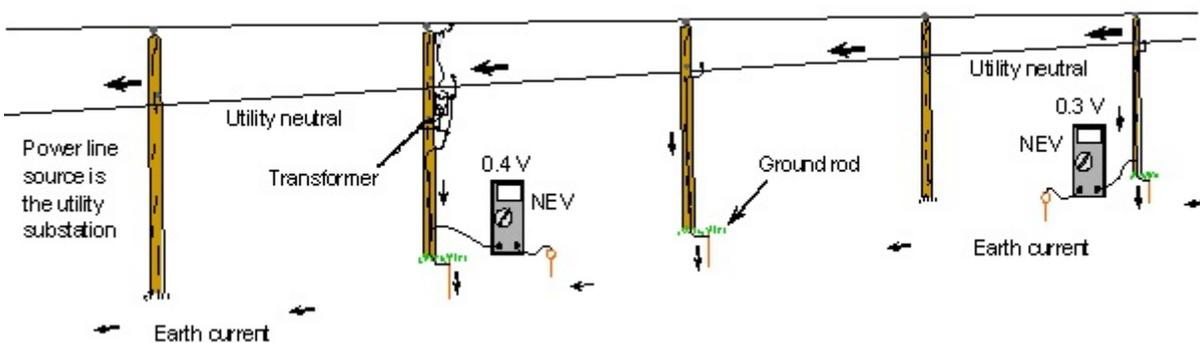

Figure 337.5 Most utility electrical distribution lines are multi-grounded to the earth and some of the neutral current flows in the earth.
1. Voltage drop on a utility multi-grounded distribution line neutral. (See *Figure 337.5*)
earth becomes a parallel conductor for current returning to the substation. As a result the earth also becomes a return path back to the substation for some of the neutral current. It is common for a very small voltage to be present between the neutral wire and the earth at each grounding location. This is what is known as neutral-to-earth voltage. This phenomenon is explained by Ohm's law which explains that when this very small current flows across the ground rod resistance to earth a very small voltage occurs. This ground rod current is usually only a fraction of an ampere. Assume the ground rod current is 10mA (0.01 ampere) and the ground rod resistance to earth is 30 ohms. The neutral-to-earth voltage at that ground rod location is the product of the current in amperes and the resistance of the ground rod. For this example the NEV is 0.3 volts. Such small voltages have no effect on humans or animals. On occasion a condition can arise that results in an elevated level of NEV. Figure 337.5 illustrates a typical grounded neutral utility distribution line with a small current flowing in the earth back to the substation.